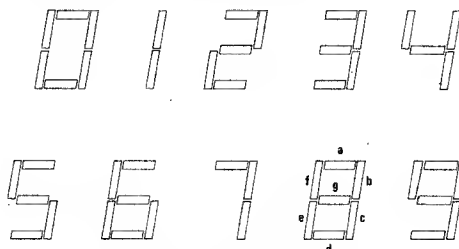

FIGURE 5. Character Display Font
**Display Multiplexing:** The counter data selected to be displayed is time-division multiplexed to provide digit-sequential presentation to the LED display. This reduces the number of outputs required to drive the 4-digit display to 11 (7 segment drivers and four digit drivers). The display font is shown in *Figure 5*. *Figure 6* is a schematic diagram of a typical LED watch using the MM5860/MM5880 watch chip. The digit outputs of the MM5860/MM5880 are designed to interface with the bipolar DS8658 digit driver chip and the segment driver outputs will interface with the bipolar DS8659 segment driver chip. The four digits of the LED display are multiplexed with a 25% duty cycle, 1024 Hz signal during the display period. The digit drivers are disabled for 32  $\mu$ s at the beginning of each digit enable time